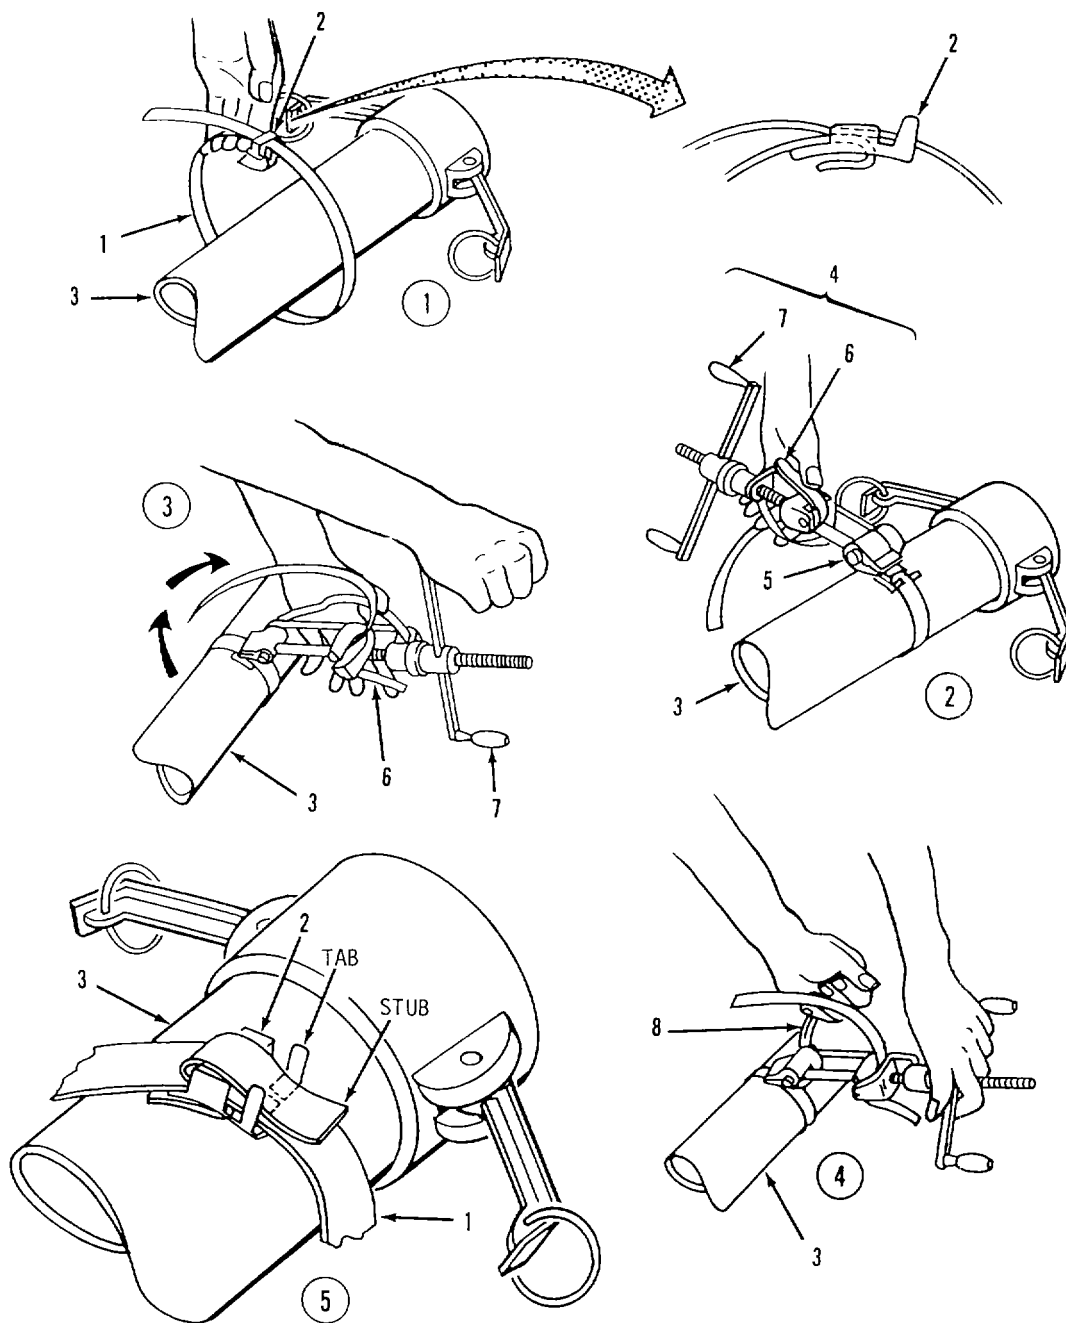

Figure 4-7. Strapping and Seal Installation.
- (2) Cut a piece of strapping (1, figure 4-7) 36 inches long.
- (3) Slide seal (2) onto strapping (1) as shown. Bend end of strapping under seal.
- (4) Wrap other end of strapping (1) around hose (3) and through seal (2). Position strapping on hose about 1 inch from end of hose.
- (5) Wrap another loop of strapping (1) around hose (3) and through seal (2).
- (6) Position strapping (1) in slots of clamping tool (4). Tool nose (5) should fit snug against seal (2).
- (7) Apply pressure to gripper lever (6) and turn handle (7) until strapping (1) is snug. Tool will lock in place when correct tension is applied. Reposition tool as required.